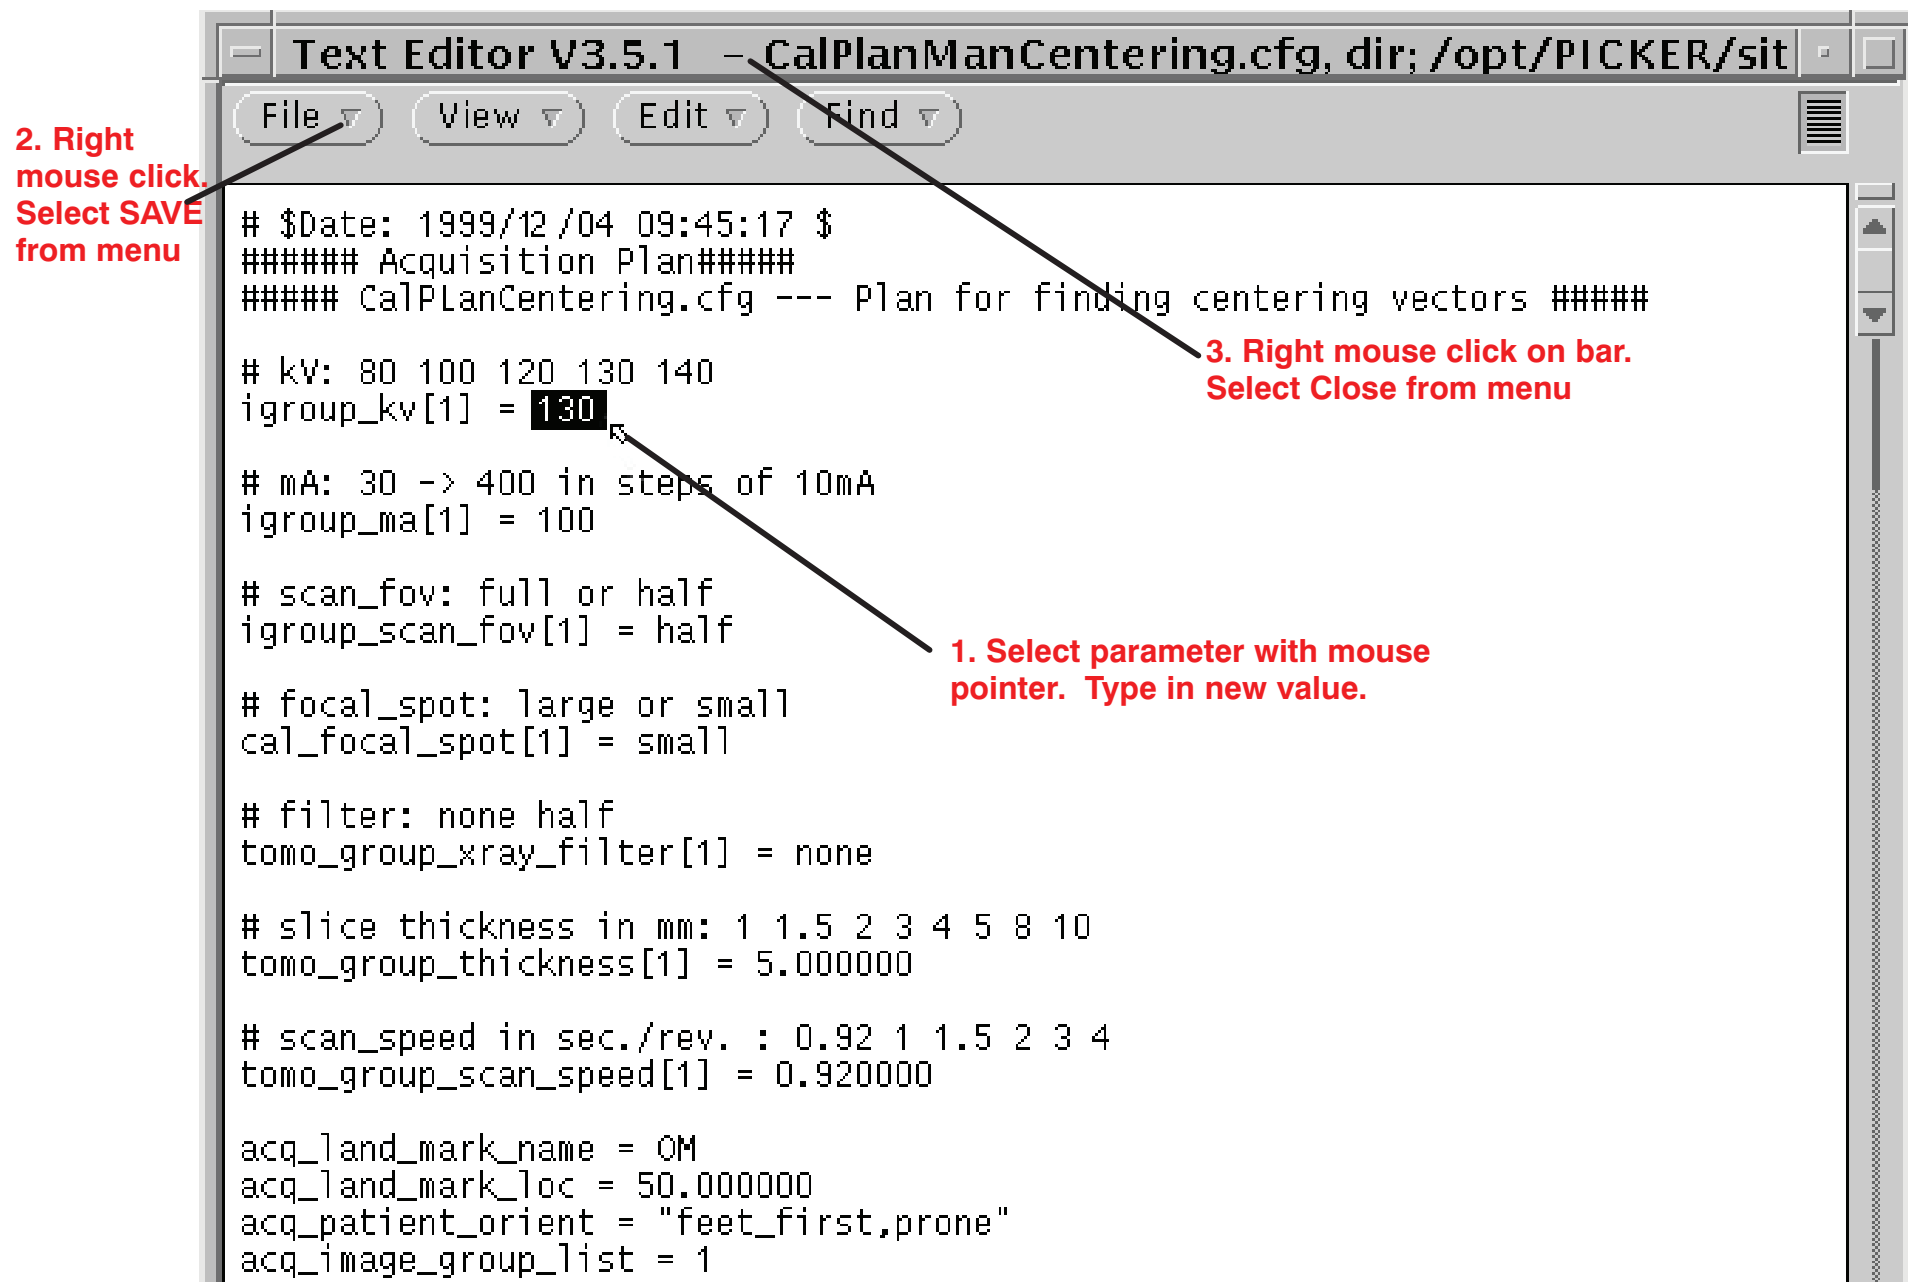

FIGURE 110 MANUAL PERFORMANCE / CALIBRATION TEXT EDITOR
1. After the reason is selected, a text editor appears, containing the calibration/performance routine text of the Reason that was selected. Find and edit the appropriate text parameters for the calibration or performance routine you selected. To edit a routine, highlight the text value (mA, voltage, etc.) with the mouse pointer. (Click on the text, hold and drag across the text of choice until the text displays in reverse video.) Refer to Figure 110.